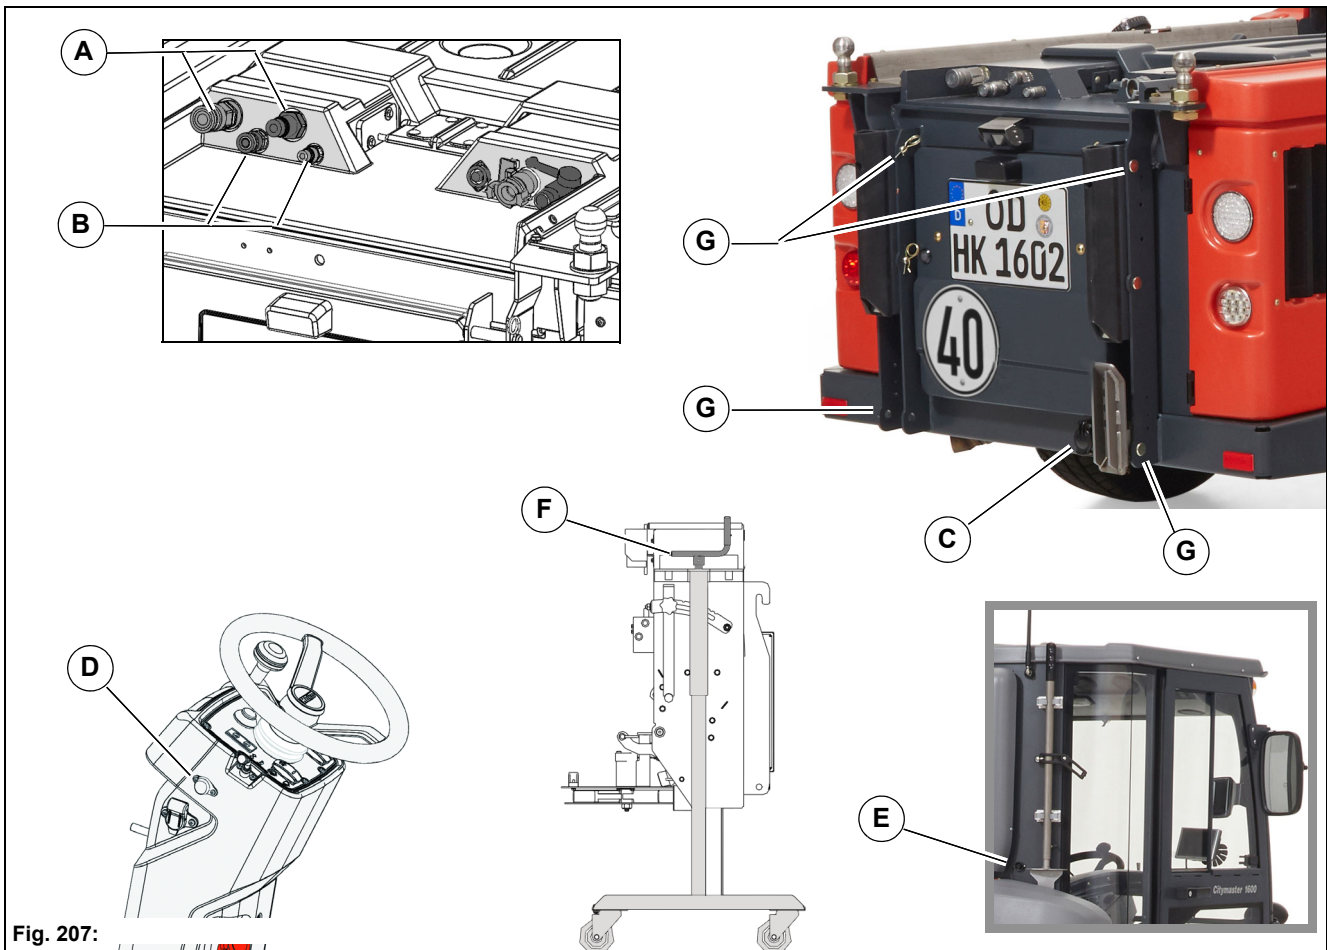

Fig. 207:
- Spreader roller hydraulic motor – Supply/return **Fig. 207-A**
- Spreader plate hydraulic motor – Supply/return **Fig. 207-A**
- X65 – 7-pin socket for lighting **Fig. 207-C**
- X67 – 7-pin socket for spreader **Fig. 207-D**
- X68 – 7-pin socket for spreader **Fig. 207-E**
4. With both cranks **Fig. 207-F** of the trolley lower the spreader evenly onto the holding points **Fig. 207-G** of the vehicle tail end and secure with bolts.